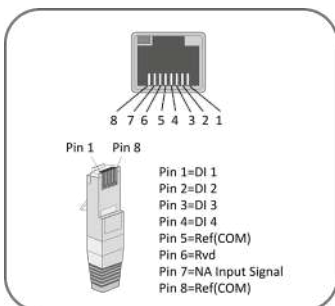

Fig. 45. Cable pin assignment
- 1.Strip the insulation from the wire and crimp it into the corresponding terminal (see Fig. 45)